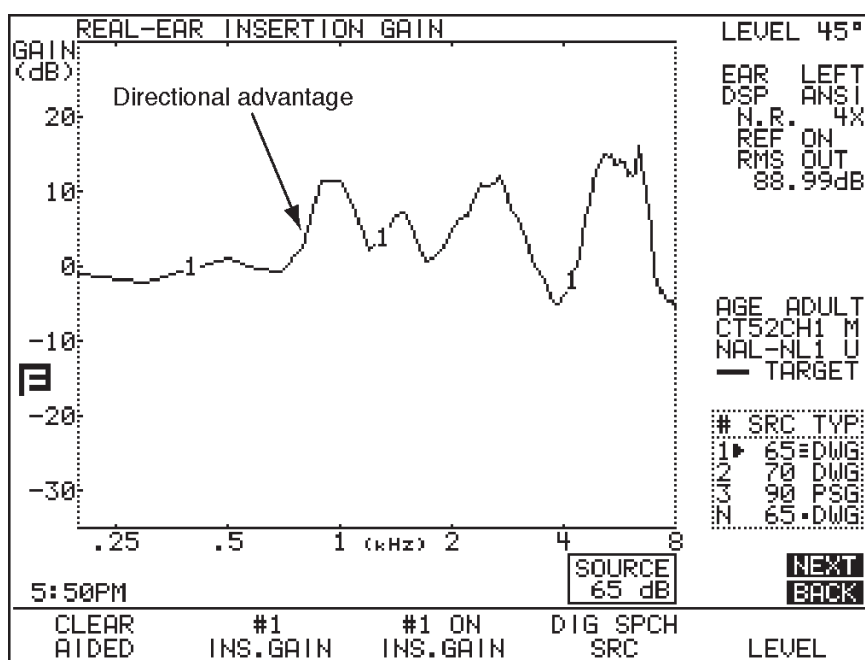

Figure 5.4.5C—Amount of amplification advantage provided by the directional microphones
14. Press [NEXT] to enter the Insertion Gain screen. The displayed measurement curve is the difference between the “forward” and the “reverse” measurements, or the amplification advantage provided by the directional microphones of the hearing aid. See Figure 5.4.5C.